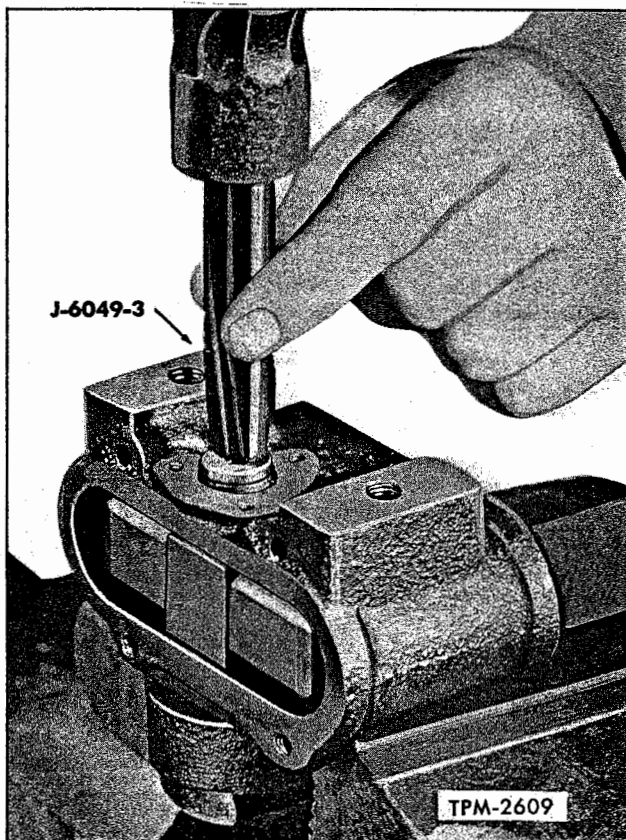

Figure 22—Using Special Tool to Drive Out Shaft
13. With actuating arm still at right angle to body, support the body in vise jaws and drive out the shaft and arm assembly. Use remover and replacer J-6049-3 as shown in figure 22.
14. Lift out cam follower beam and piston assembly (35 through 42). Drive out pivot pins (36 and 42). Remove damper pistons (41), links (40), retainers (39), springs (38), and tappets (37) from cam follower beam (35).
15. Pry shaft seal (33) out of damper body and remove seal gasket (34).
16. Cylinder expansion plugs (28) should not be removed unless leakage is indicated.